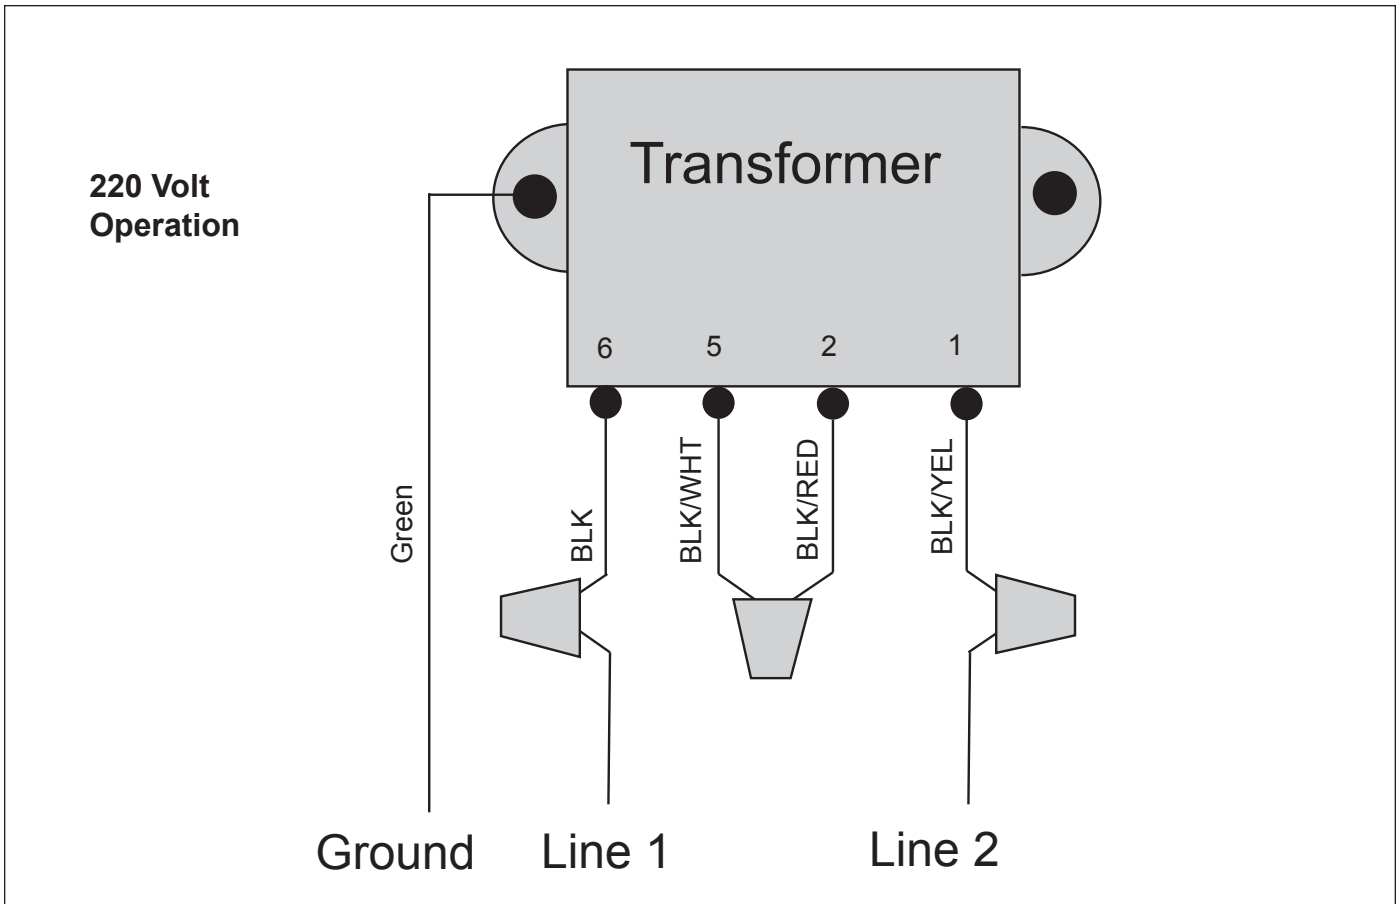
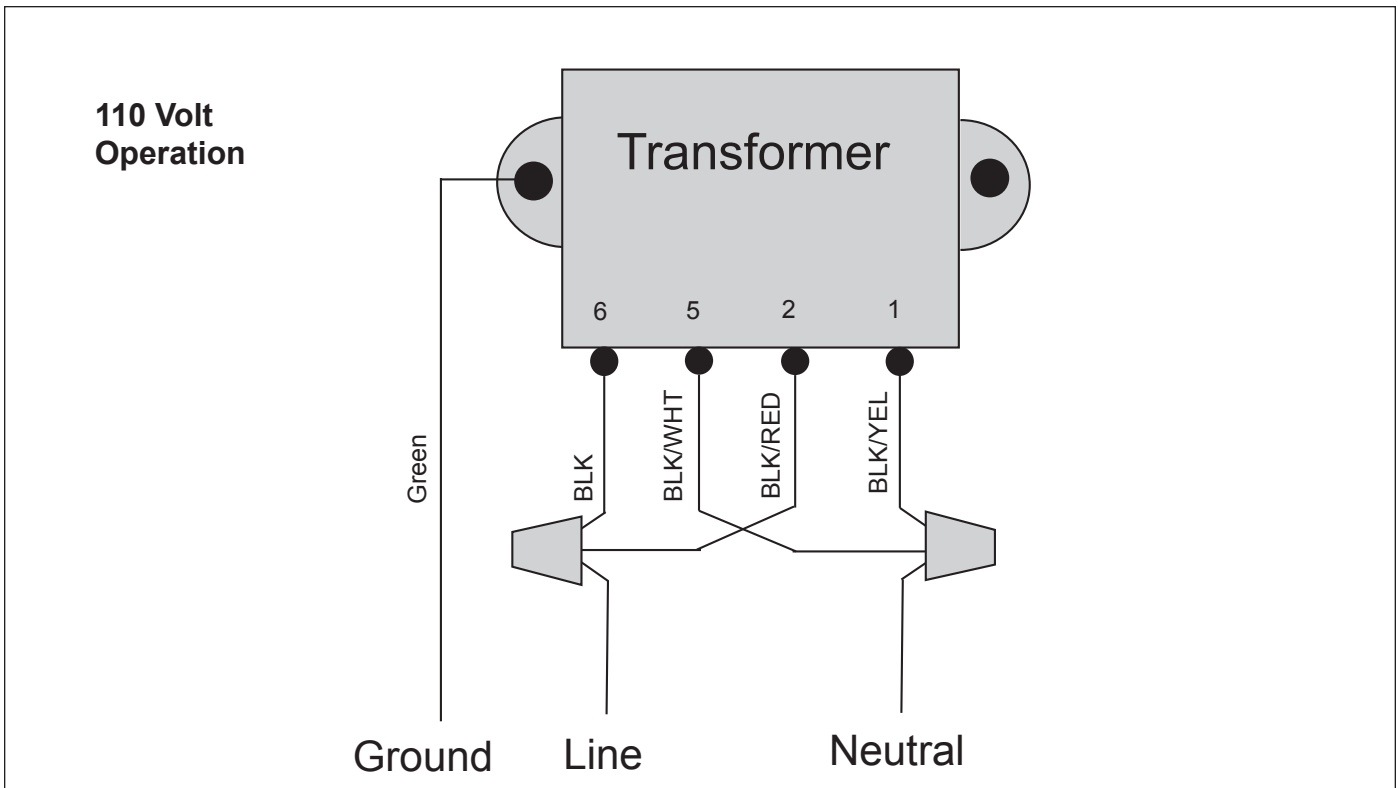

Figure 4. K-1100 and K-2300 Factory Wiring for 220 Volt Operation
Figure 5. K-1100 and K-2300 Modified Wiring for 110 Volt Operation
Models K-1100 and K-2300 are factory wired for 220 VAC service. If available electrical service is 110 VAC, the power supply wiring must be changed to operate on 110 VAC as shown in figures 4, and 5.
See Figure 4 for factory-direct wiring for 220 volt operation and Figure 5 for modified wiring for 110 volt operation.
4. For 220 volt operation, connect the black wire to line 1 and connect the black wire with the yellow stripe to line 2. See Figure 4.
1. Refer to Figure 5 and do the following: